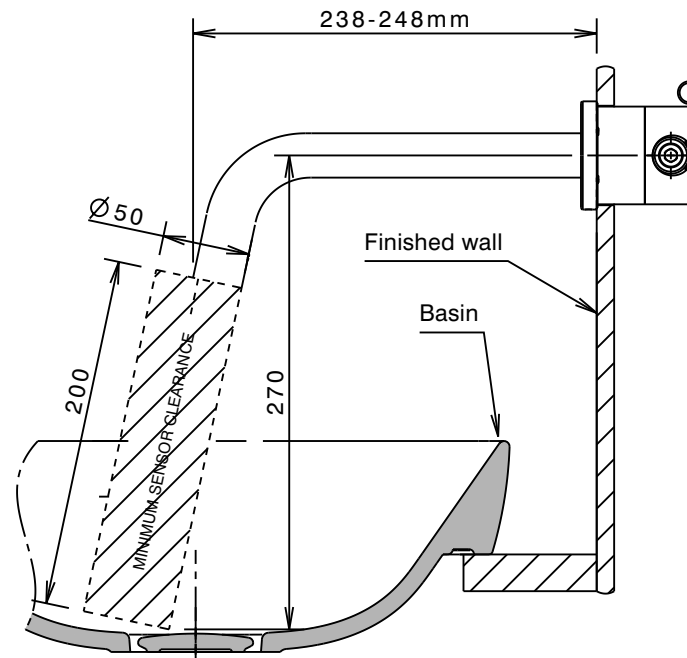

Fig. 3
- \* The basin/wash plane bowl surface must not interfere with the tap sensor clearance shown in Fig.3.